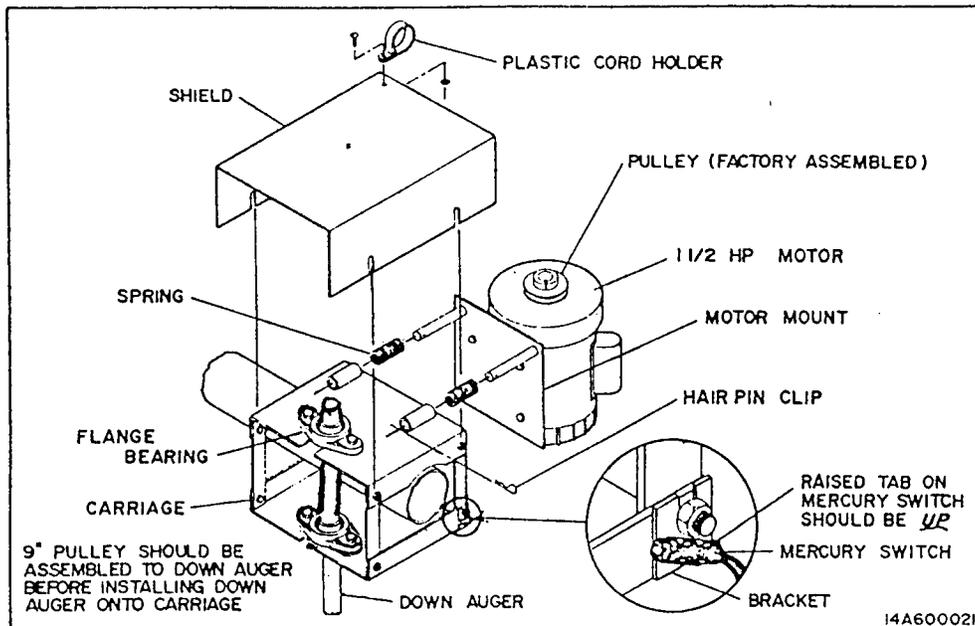

FIG. 7 - ASSEMBLY OF CARRIAGES
3. On satellite outside and middle carriages, mount mercury switch and bracket to bottom corner carriage bolt shown in Fig 7. Be sure raised tab on mercury switch is up. Slide bottom of bracket up to and even with bottom carriage plate and secure in place.
5. Place one spring on each of the motor mount pegs. Mount motors onto carriages. Place hairpin clip through hole in motor mount peg. Use one clip per carriage. Fig 7
3. Run cords through plastic cord holders as shown. Fig 7 Run connecting cords across tie bars. **Important:** Tape cords out of way of all moving parts. Leave enough slack in cords so carrier can travel entire length of cross-tube.
1. Hang down augers by top bearing in slot of carriage. Bolt top bearing to carriage with 2 - 7/16 x 1 1/4" bolts. Fig. 7